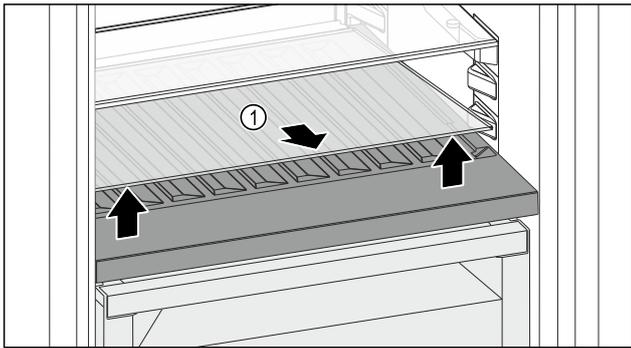

Fig. 122
- ▶ Lift the glass shelf Fig. 122 (1) at the front and remove.
- ▶ Store the glass shelf Fig. 122 (1) in a safe place outside the appliance.